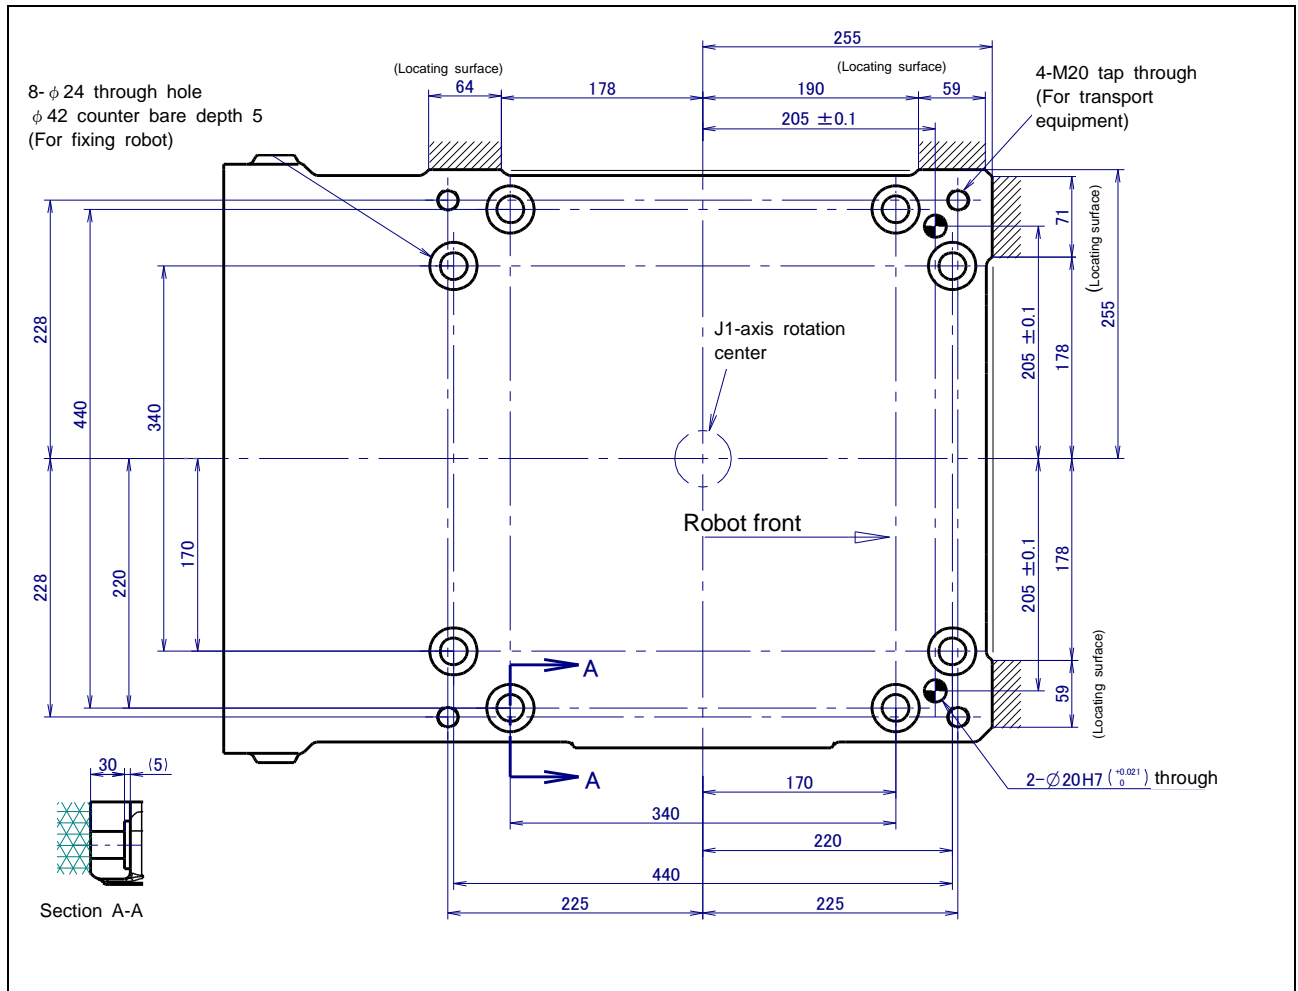

Fig. 1.2 (a) Dimension of robot base
Fig. 1.2 (a) shows the robot base dimensions. Avoid placing any object in front of the robot on the locating surface to facilitate the installation of the mastering fixture. (Shaded portion)
Fig. 1.2 (b) and Table 1.2 (a) indicate the force and moment applied to the base plate at the time of Power-off stop of the robot. Table 1.2 (b) and (c) indicate the stopping distance and time of the J1 to J3 axis until the robot stopping by Power-Off stop or by Smooth stop after input of the stop signal. Refer to the data when considering the strength of the installation face.
**Fig. 1.2 (b) Force and moment that acts during Power-Off stop****Table 1.2 (b) Stopping time and distance until the robot stopping by Power-Off stop after input of stop signal**